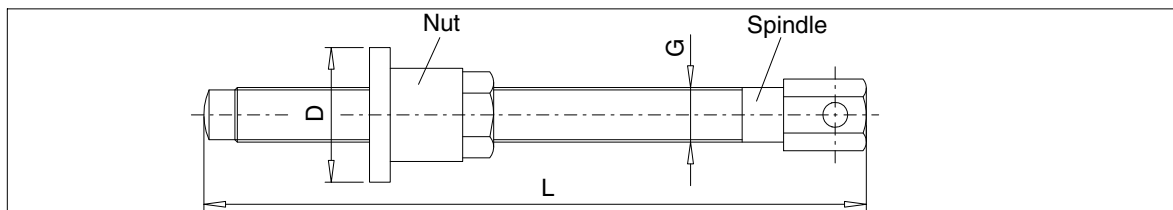
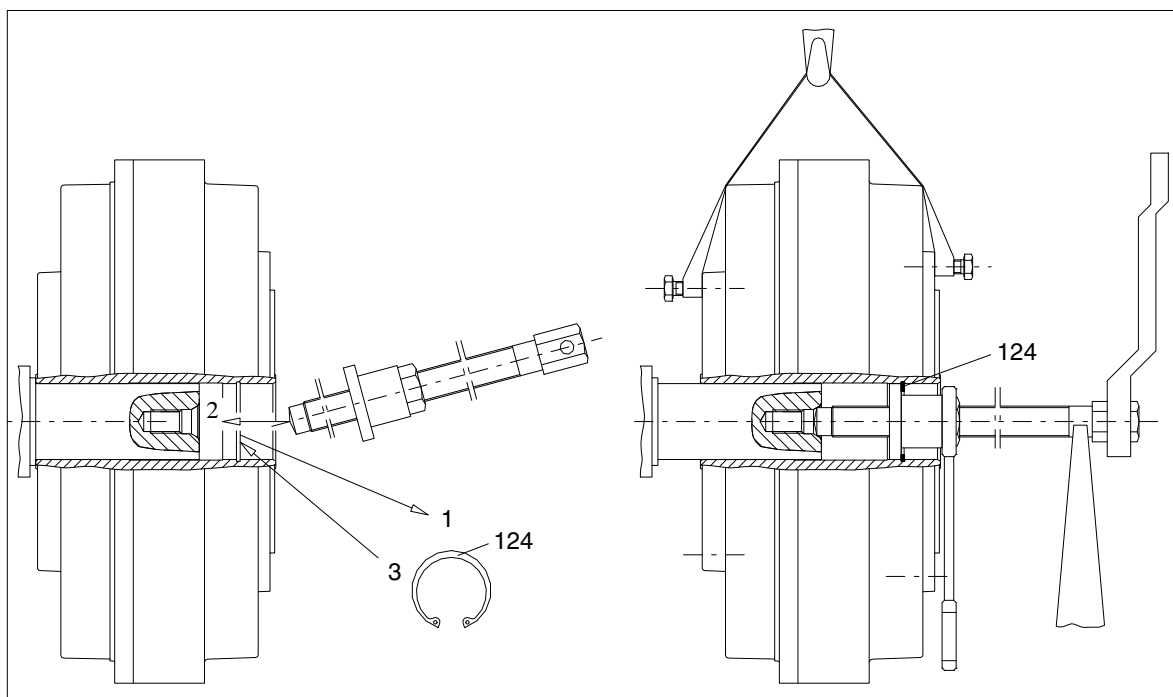

Fig. 12: Disassembling the sizes 222 to 342 -a
Fig. 13: Disassembling the sizes 222 to 342 -b
The coupling is best pulled off with the aid of a special detaching device as shown in figure 12. The spindle with the pulling-off nut is inserted so that the collar (D) of the pulling-off nut is located behind the recess for the locking ring (124) (Fig. 13). To prevent the spindle seizing, the pressure surface and the thread must be treated with a lubricant (e.g. Molykote).